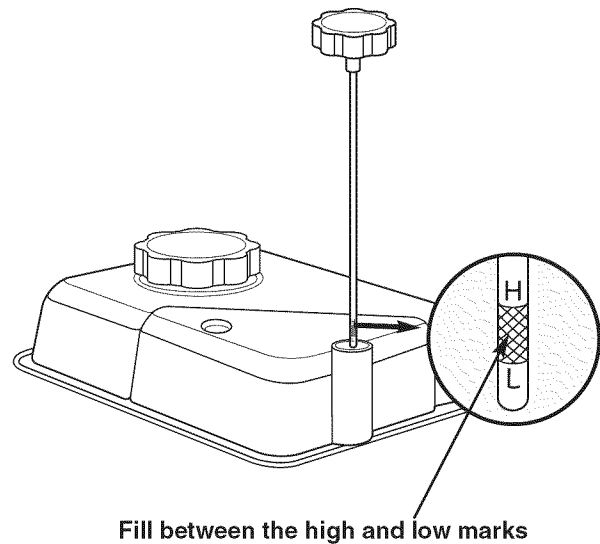

Figure 9
1. Remove the oil filler cap and dipstick. Wipe the dipstick clean (see Fig. 9).
2. Slowly add oil until the oil level registers between high and low (see Fig. 9). Refer to the Engine Maintenance section for the correct oil viscosity and engine oil capacity.